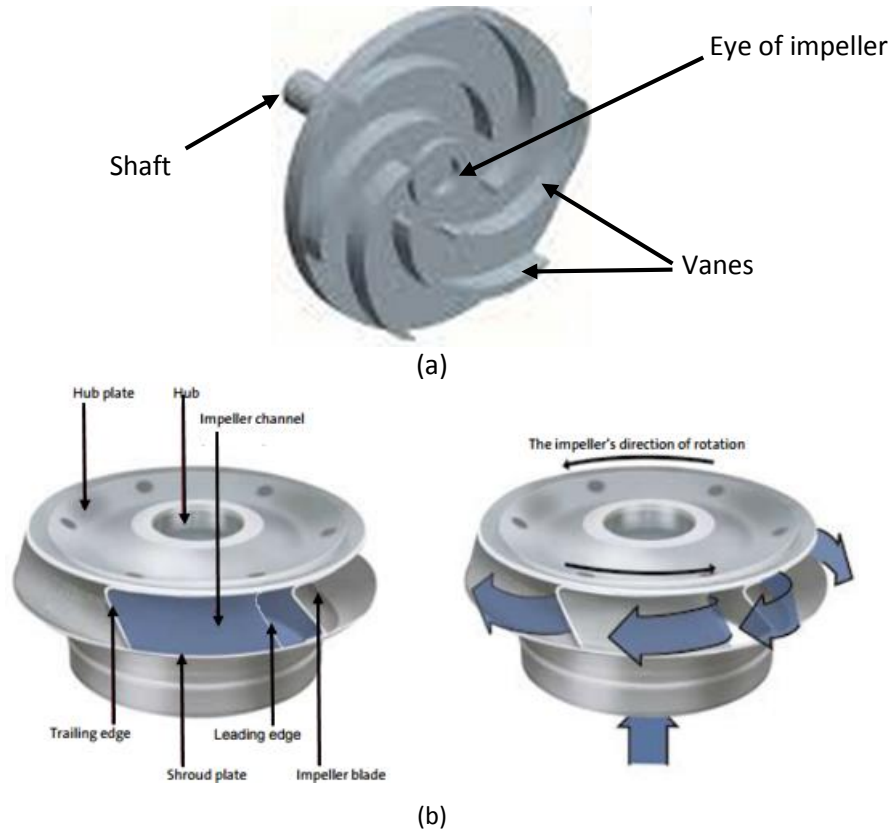

Figure 5: Close view of impellers
The impeller (H &J) is a very important part in any centrifugal pump because it's primary component determines the performance of the pump. Impeller consists of a series of vanes (E).The impeller is always immersed in water and made to rotate. The blades of the rotating impeller transfer energy to the fluid there by increasing pressure and velocity. There are two types of vanes used in centrifugal pumps; straight vane and curved vane. The impellers used in this discussion are shown in figure 5.